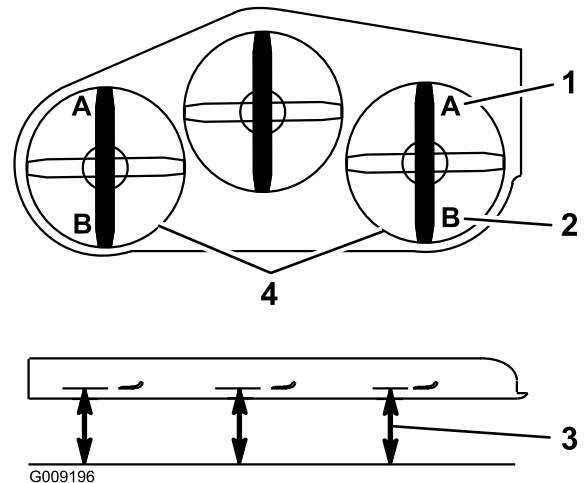

Figure 77
9. On both sides of the deck, measure from the level surface to the front tip of the blade (Position A) as shown in Figure 77.
- On both sides of the deck, measure from the level surface to the back tip of the blade (position B) as shown in Figure 77.